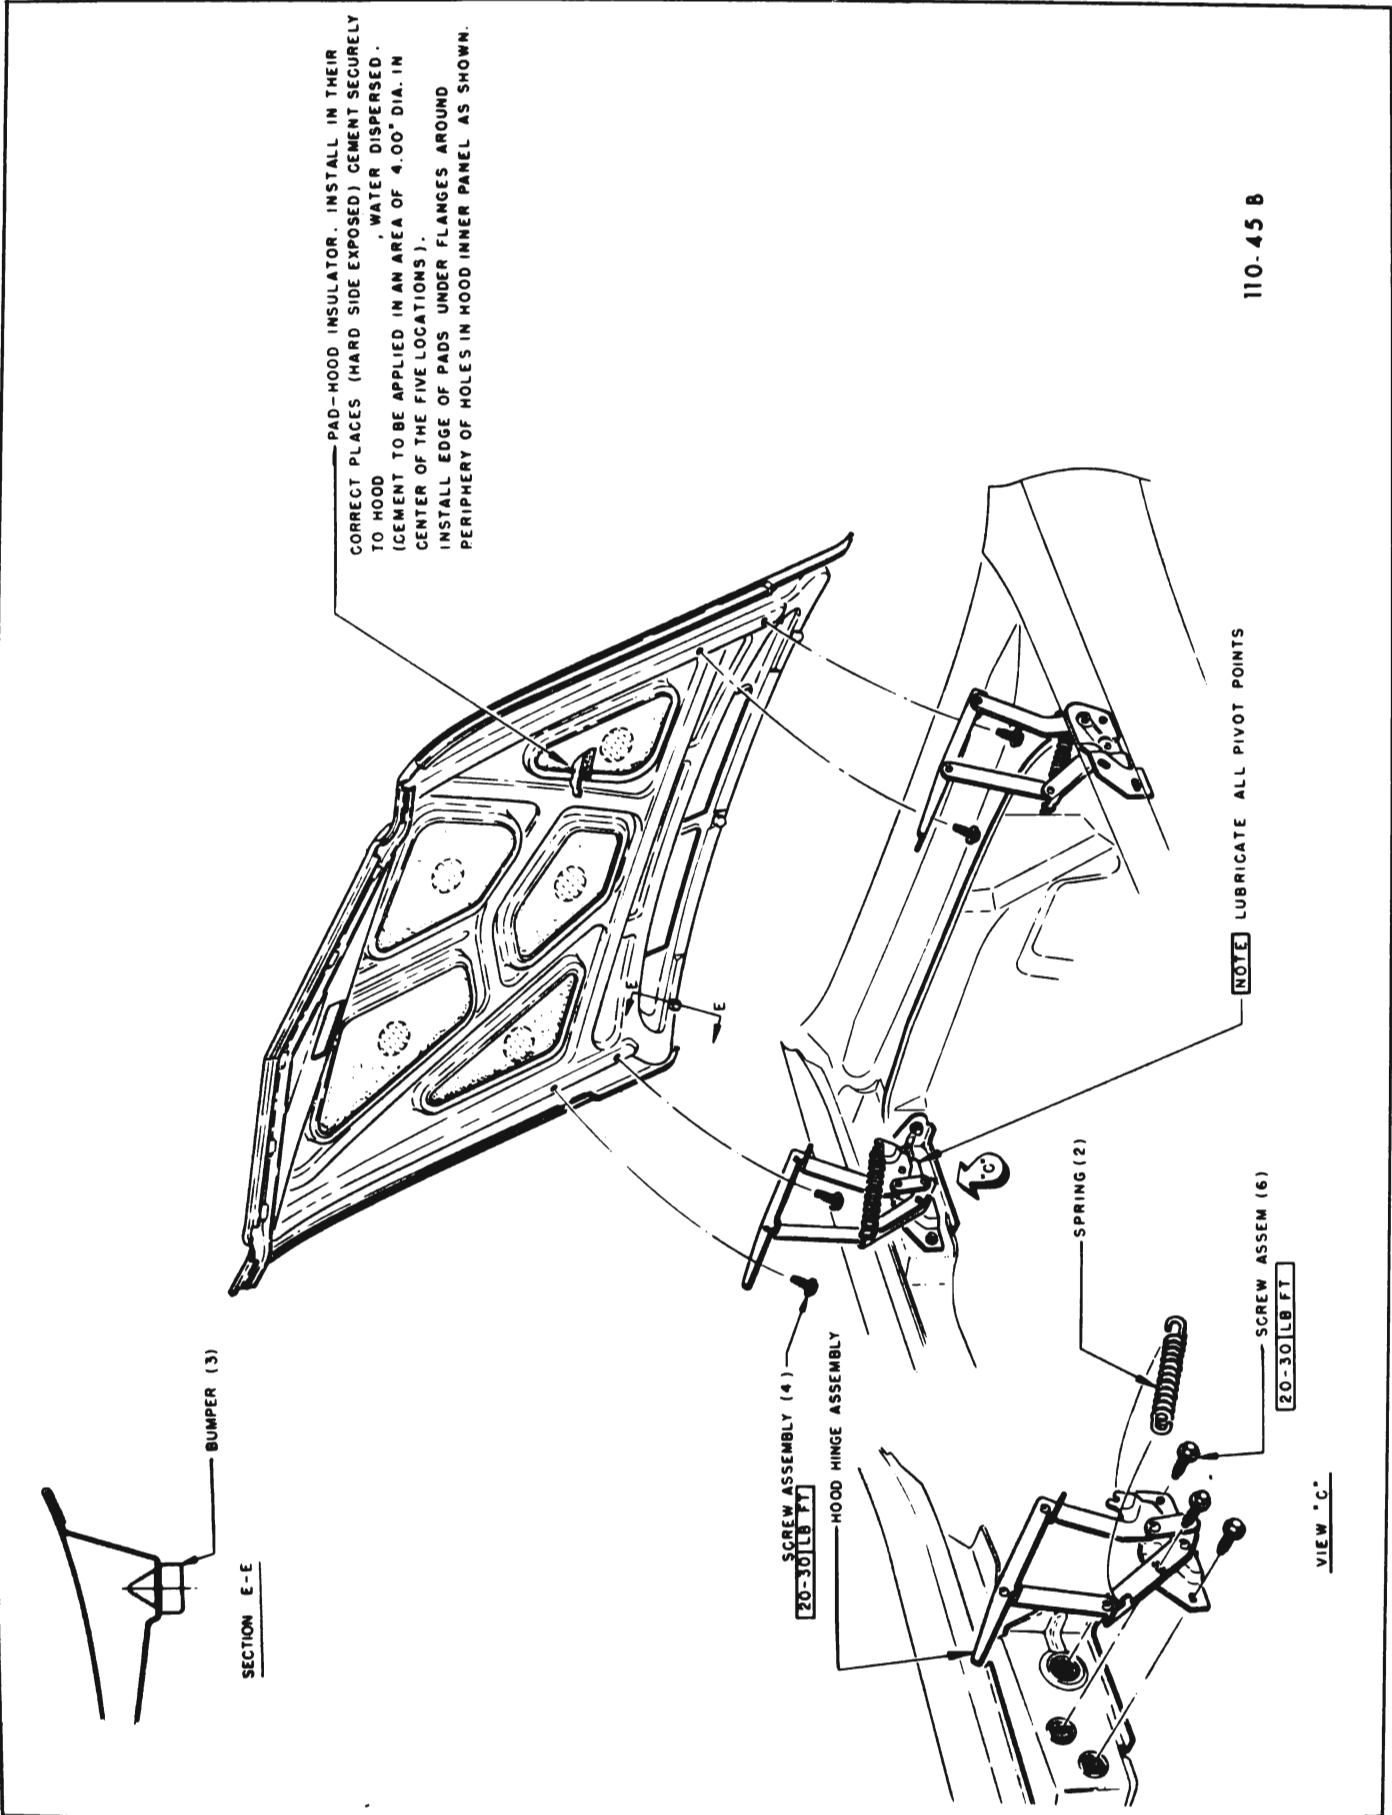

Figure 110-20 45-46-48000 Hood Hinge Spring
1. To remove hood hinge spring, insert Remover and Installer J-9214 through loop in forward end of spring with bend of tool approximately one inch from loop. Using inside corner formed by hinge as a pivot, unseat spring from notch. See Figure 110-20.